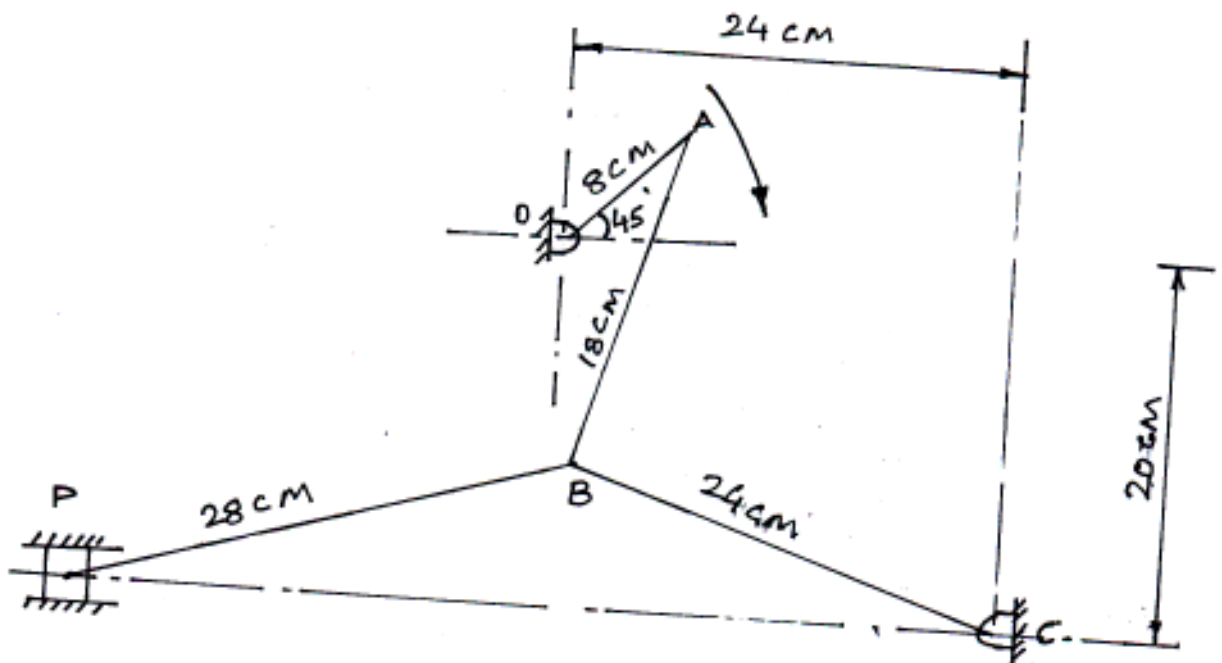

Fig. 2
4. Figure 2 shows the toggle mechanism in which crank OA rotates at a uniform speed of 105 rpm in clockwise direction. Determine the velocity and acceleration of slider P.